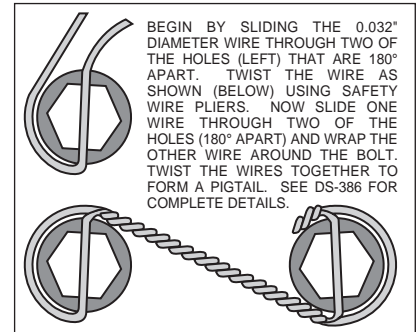

Figure 3. Safety Wire Diagram
- With the larger I.D. side of the rotor (3) facing away from the hat (4), bolt rotor (3) to hat (4) through the backside of the rotor using washers (5) and bolts (6). Using an alternating sequence, apply red *Loctite*® 271 to the threads and torque bolts to 140 in-lb. For an added measure of security, the bolts may be safety wired using standard 0.032 inch diameter stainless steel safety wire as shown in Figure 3. Please refer to Wilwood's data sheet DS-386 for complete safety wire installation instructions.